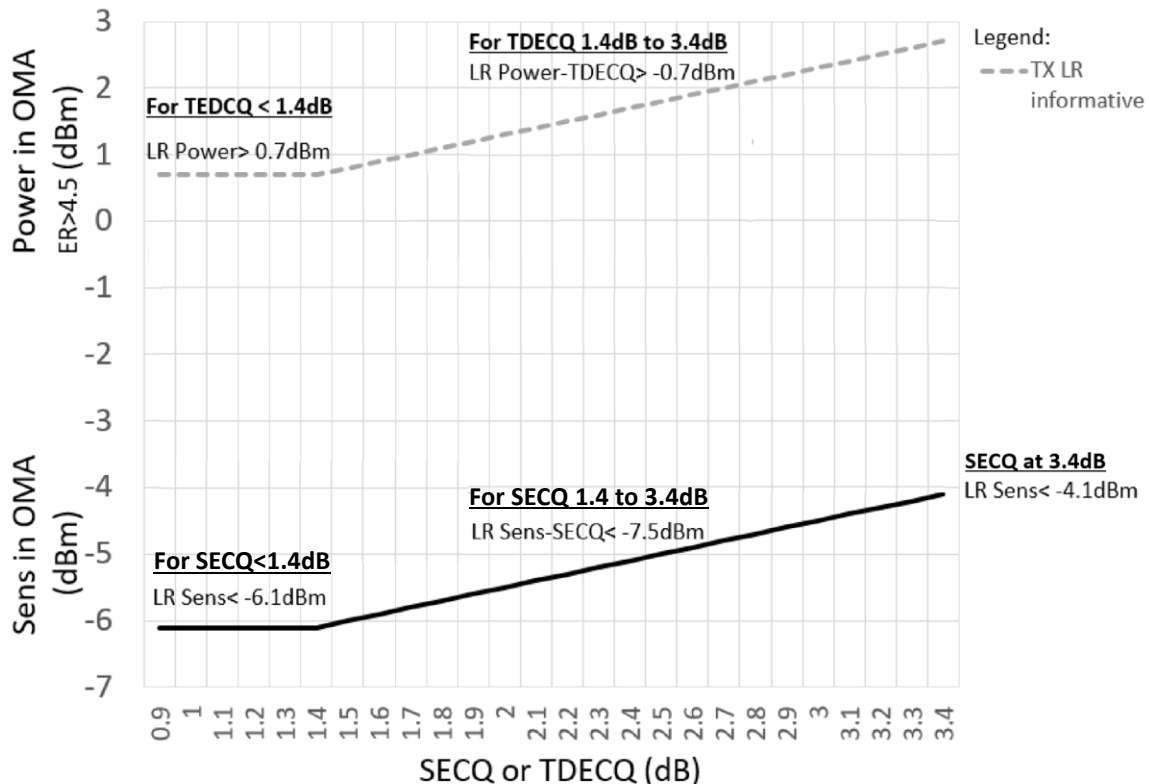

Figure 4. Stressed Receiver Sensitivity Mask for 400G-LR4
5. Measured with conformance test signal for BER = 2.4x10-4. A compliant receiver shall have stressed receiver sensitivity (OMAouter), each lane values below the mask of Figure 4, for SECQ values between 0.9 and 3.4 dB.